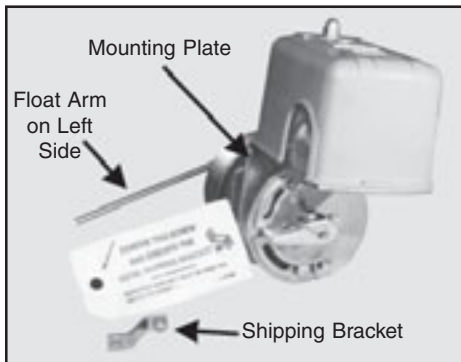

FIGURE 3—Float Switch
- B. Remove shipping brackets on float switches. Per instructions on tag attached to float switch, remove shipping bracket (See Figure 3) from each float switch or mechanical alternator as per manufacturer's instructions. The float switch has been factory set for maximum capacity of the receiver. Should an alternate setting be required, refer to the float switch manufacturer's instructions. If needed, reference Technical Articles section on the SHIPCO® website ([www.shipcopumps.com](http://www.shipcopumps.com)) for detailed instructions on how to adjust a float switch or mechanical alternator: